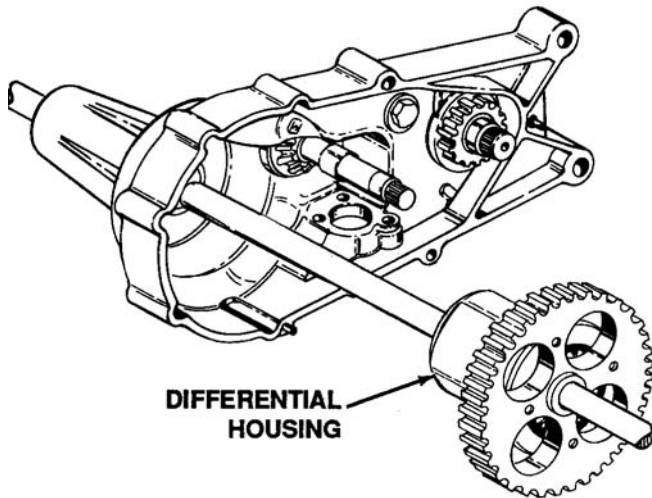

Figure 6-37. Differential Removal
13. Remove differential assembly from housing half. See Figure 6-37.
- Disassemble differential by removing four socket head bolts and lock washers. See Figure 6-37. Inspect differential gear (72 teeth) for any damage. Replace if necessary.